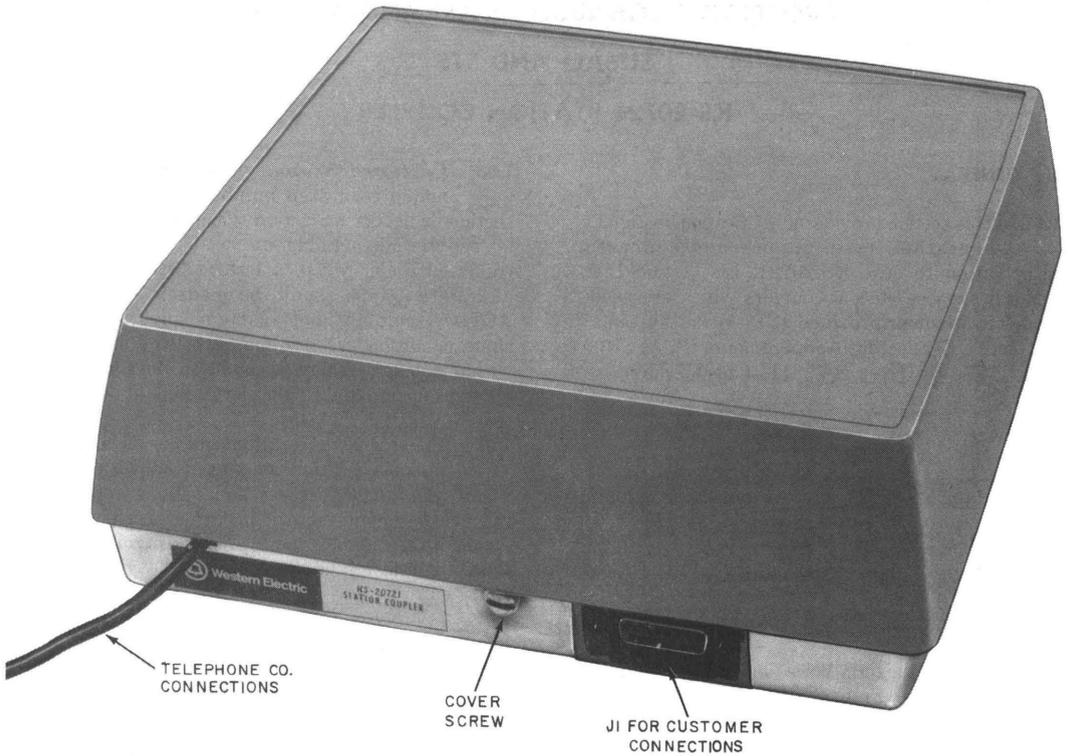
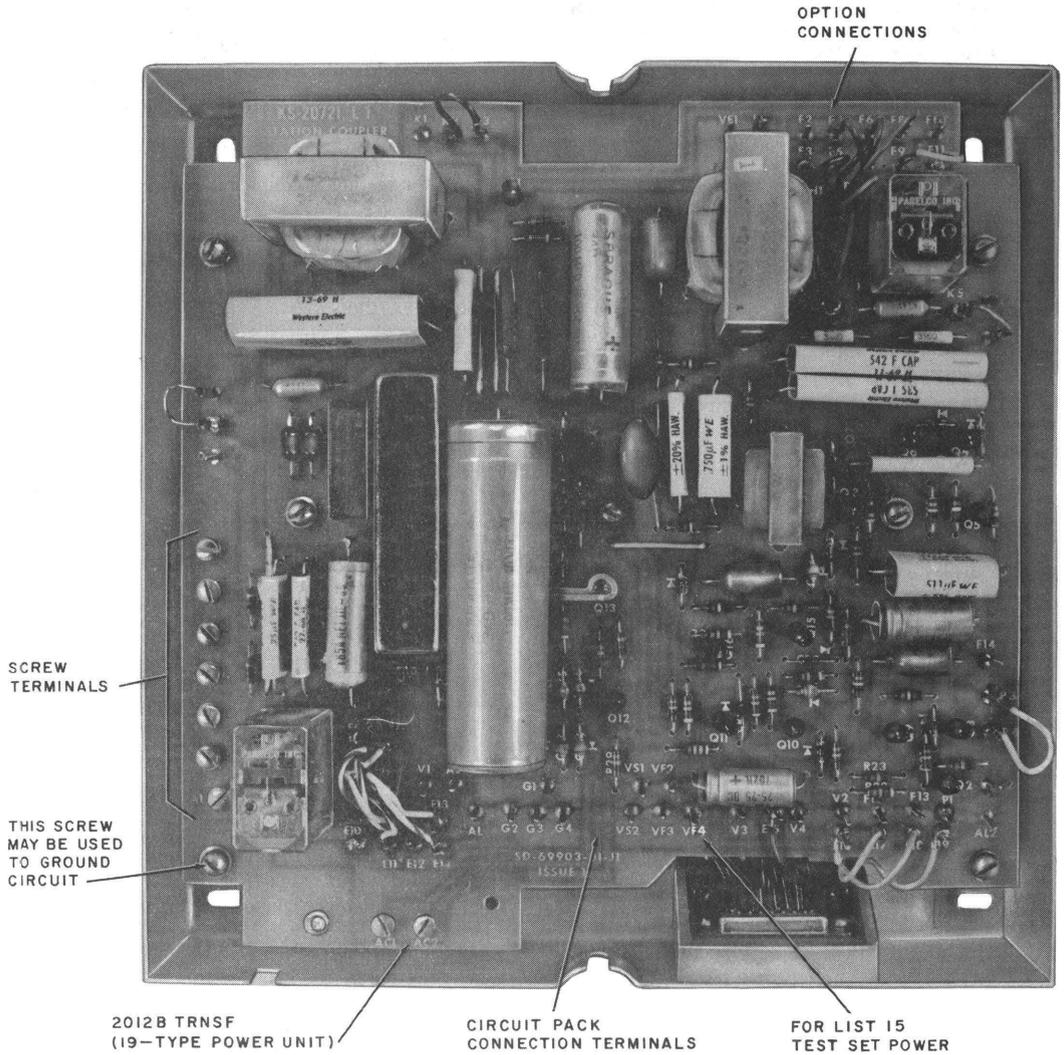
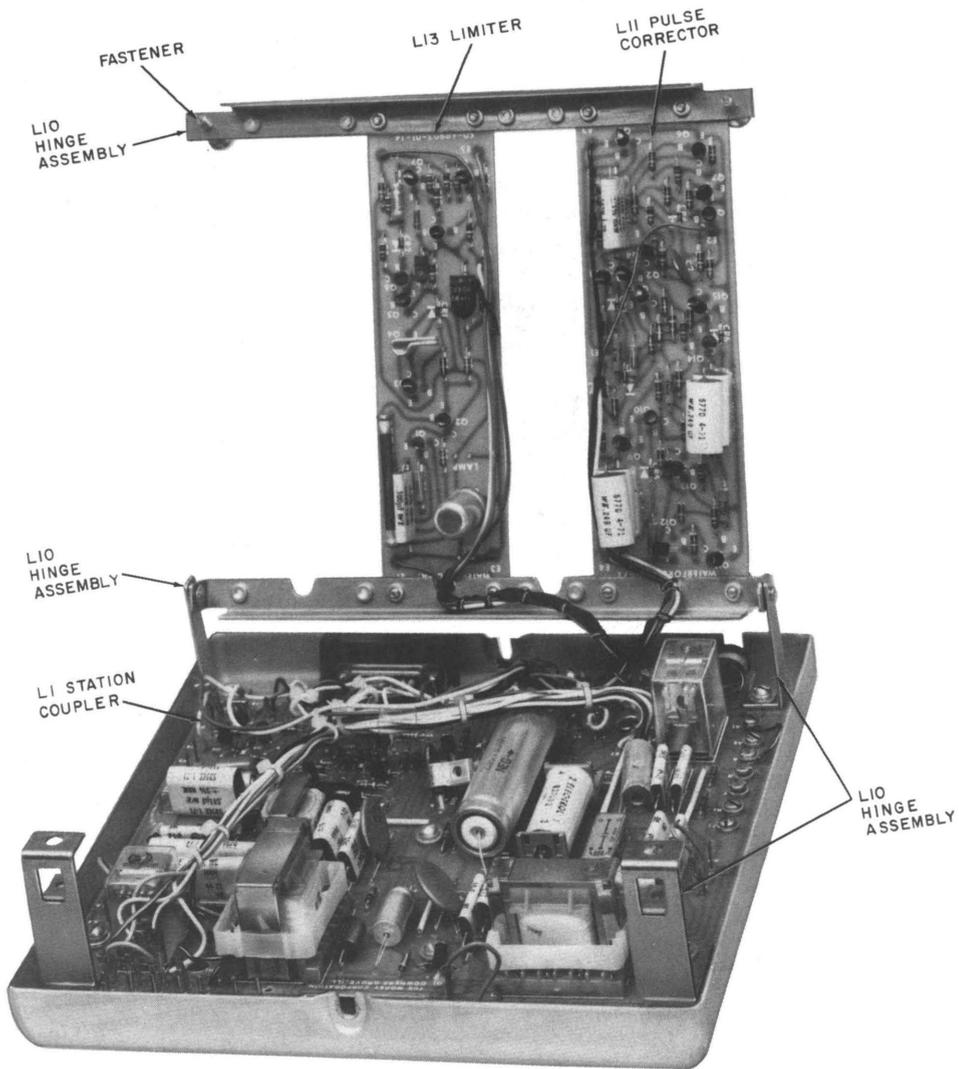
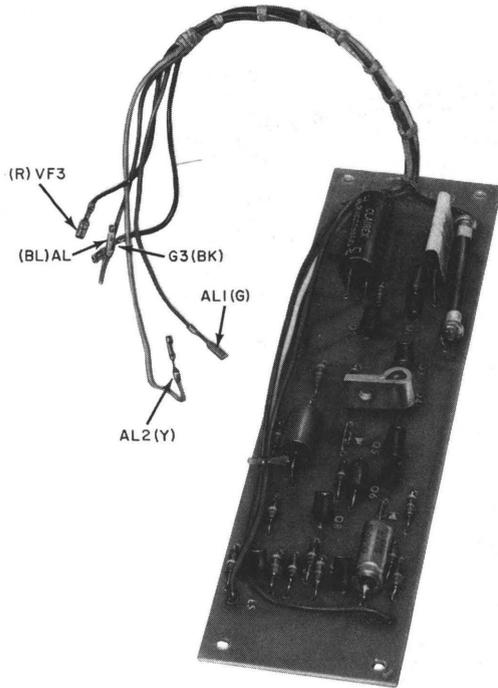

Fig. 1—KS-20721, List 1 or List 3 Station Coupler
Fig. 2—KS-20721, List 1 Station Coupler, Cover Removed, Used With PCA SU6AQ
Fig. 3 → KS-20721, List 3 Station Coupler Used With PCA STS
Fig. 4—KS-20721, List 13 Limiter
- Change Fig. 3, 5, 6, 7, and 8
1.03 The KS-20721 station coupler (Fig. 1) is used to provide services similar to those provided by the KS-20008 control unit (MD) and the KS-20445, List 1 control unit for alarm systems. However, the plug and wiring connections may be different and substitution should not be made without customer approval.
- Coupler, Station, KS-20721, L1 (Fig. 1 and 2). Used for PCA SU6AQ.
- Coupler, Station, KS-20721, L3 (Fig. 3). Used for PCA STS. The L3 comes factory-wired with the three units listed below. These three units may also be ordered separately and assembled in the field. (See 2.03 and 2.04.)
Assembly, Hinge, KS-20721, L10 (Fig. 3)
Limiters, KS-20721, L13 (Fig. 4)
2.03 The KS-20721, List 1 station coupler (Fig. 2) is the basic unit which can be field equipped with a KS-20721, List 10 hinge assembly for mounting the optional circuit pack (Fig. 3). The circuit pack is equipped with quick connectors for easy installation.
2.04 The KS-20721, List 3 station coupler consists of a KS-20721, List 1 station coupler with a KS-20721, List 10 hinge assembly and KS-20721, List 13 limiter (Fig. 4), factory-installed.
3.02 A 15-pin connector (J1, Fig. 1) is located on the base of the unit to connect the transmission path and control leads to the CPE by means of a CP cable equipped with an ITT-Cannon Electric or Cinch Manufacturing Company plug No. DA-19603-403 (P1) with hood No. DA-51225-1. Screw terminals on the left side of the printed circuit board (Fig. 2) provide connections to the CO line, telephone set, and 2012B power transformer (or power supply). Flexible jumper leads with connectors provide for installation options.
- (2) Attach KS-20721, List 10 hinge assembly to the four corner screws mounting the List 1 board. Refer to Fig. 3.
- (3) Mount the circuit pack on the internal mounting frame formed by the hinge assembly. Place board in correct position on frame (refer to Fig. 3 or cover label) and secure with four corner mounting screws furnished with circuit pack.
- (4) Connect the flexible jumper leads on List 1 board to provide the required options called for in Table A by using the connecting information given in Table B. (See 3.04.)
- (5) Provide option T by plugging the connecting leads from circuit pack into corresponding terminals on List 1 board per Table B and Fig. 4. Dress leads to avoid interference with boards and cover and secure leads with cable clamp provided.
- (6) Close hinge assembly and fasten the two top corner fasteners.